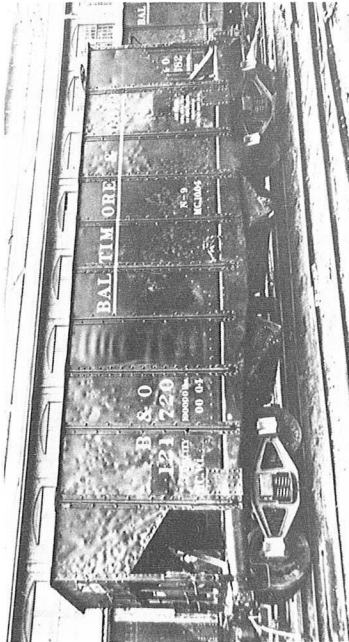
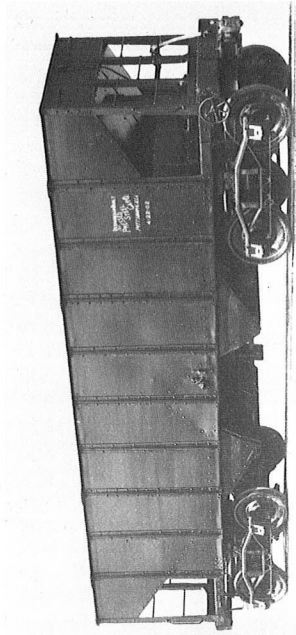

Figure 8. Type VII- 1904 deliveries had T-section Bettendorf trucks. B&O Historical Society, courtesy, Gary Schlerf.
Figure 9. Early experimental car without side sills spelled demise of fishbelly production. PSC, Metzger Collection.
The car company was reorganized in 1899 as the Pressed Steel Car Co. PSC redesigned their car for 50-ton capacity coal use and offered it to the trade. This version was purchased by many roads as their first standard steel car. It was 30 feet inside, taking advantage of a lower crossridge than the GL to provide equal capacity in a smaller car. Unfortunately, I don't have a good photo of the car to reproduce here, my model being built from photocopies. Some railroads, notably the Baltimore & Ohio, required narrower cars. Their N-8 was the same standard design but the almost-foot-narrower width resulted in a 47.5-ton car. Later, however, they ordered a 50-ton car by increasing the height of the sides and ends. In a 1901 photo (front cover), it shows such a design with minor improvements over the earlier cars, including changes in end sills and corner posts. The last design change I am aware of was substitution of T-section Bettendorf trucks on cars delivered to the B&O in 1904 (see figure 8). By this time Pressed Steel Car and other companies were experimenting with cars whose side sheets could bear the entire load. Because of their lighter weight, they completely supplanted the fishbelly design by 1905. In fact, Pressed Steel Car designed an experimental car of this type at the turn of the Century. Examining the photo closely, you will see that the car is identical to the fishbelly car except for lack of side sill and inclusion of an improved body bolster (see figure 9). Cars of this type were delivered to the Western New York & Pennsylvania and the Delaware, Lackawanna & Western, probably the first "modern" hopper cars produced in quantity. To get some idea of how poor the competing car company designs were, I provide two American Car & Foundry
- Figure 8.....Type VII